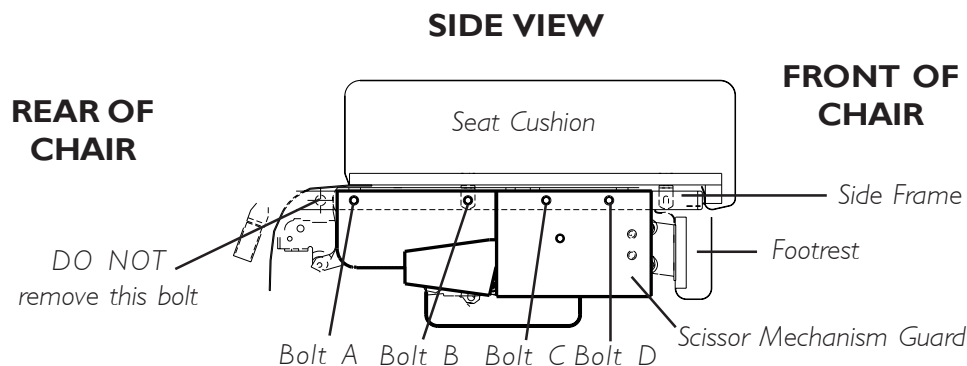

FIGURE 9 - REPLACING THE SCISSOR MECHANISM GUARD
REPLACING THE SCISSOR MECHANISM GUARD (FIGURE 9)
4. Remove four (4) existing bolts A, B, C, and D from side frame as shown in FIGURE 9.